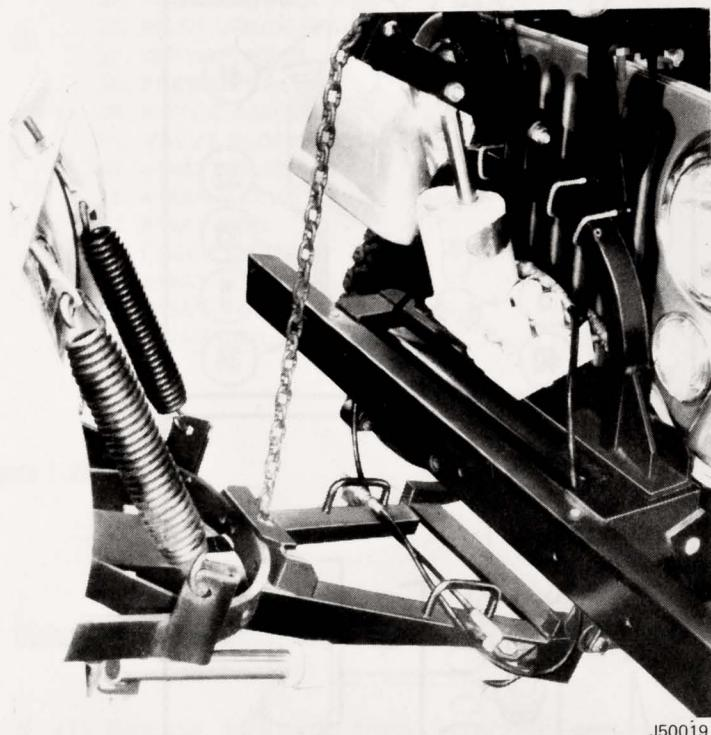

Fig. 1-24 Electronic Power Pack Model E-48 Installation
(19) Connect negative battery cable and test operation (fig. 1-24).